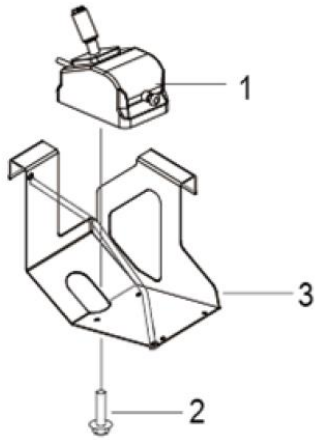

Fig. 3.1 PCU
1. As shown in Figure 3.1, install part 1 PCU on part 3 bracket and secure it with part 2 bolt.